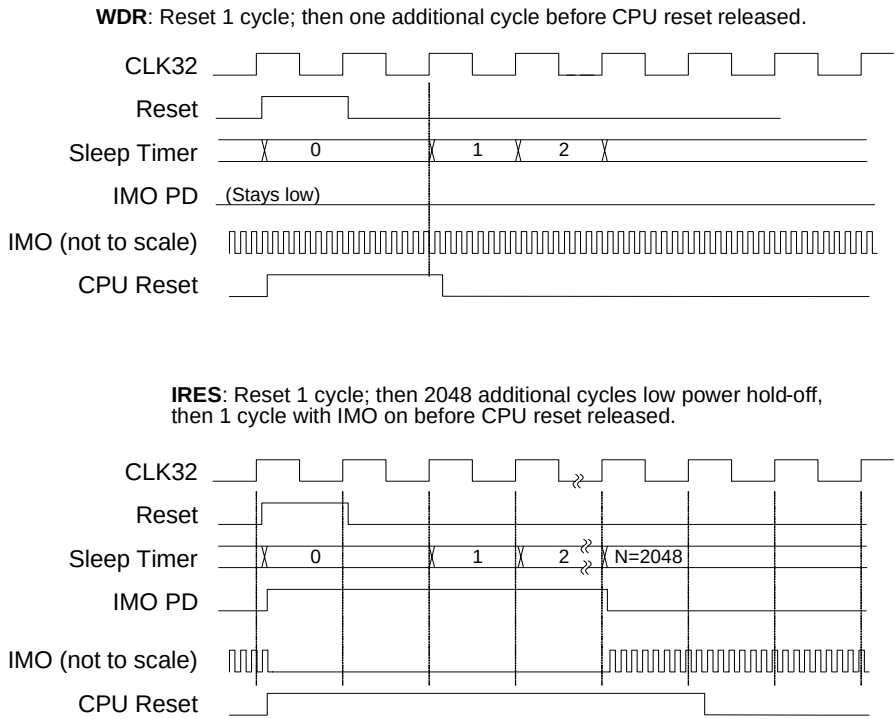

Figure 29-2. Key Signals During WDR and IRES
- CPU operation re-starts one CLK32K cycle after the internal reset de-asserts (see Figure 29-2).